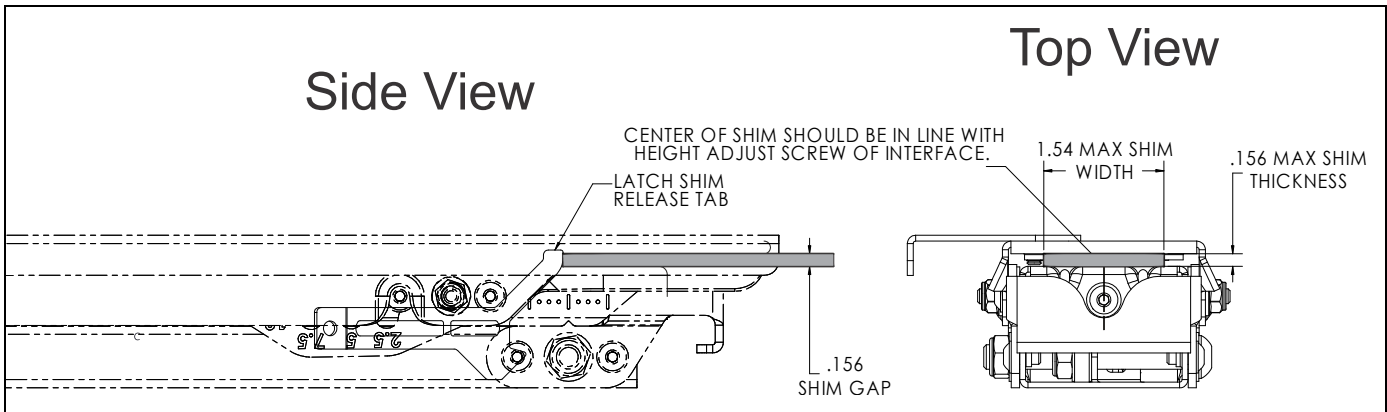
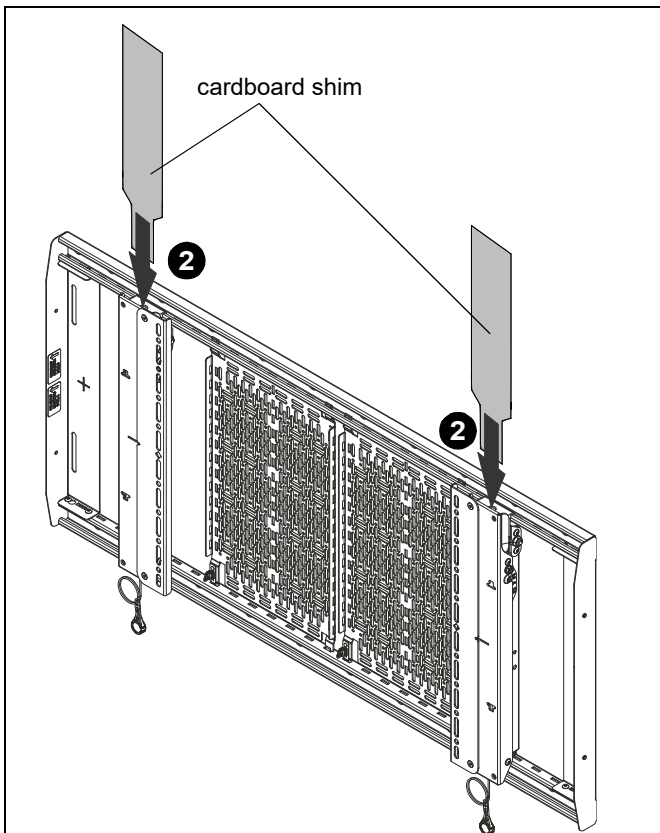

Figure 38
Figure 39
2. Place created shim tool down top of each upright and gently push and pull on display while shimming until it releases. (See Figure 38) and (See Figure 39)